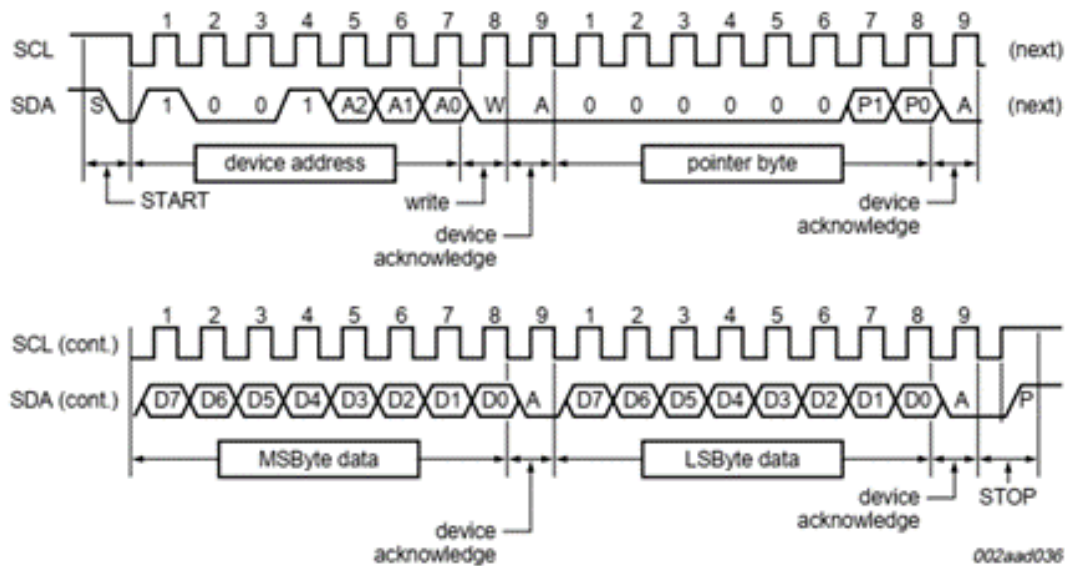

FIGURE 2.6 – Write Tos or Thyst registers (2-byte data).
5. Complete the `lm75a_writeThysOrTosRegister()` function to write *Tos* or *Thyst* registers (2-byte data) by helping you figure with the Figure 2.6. Build the program.